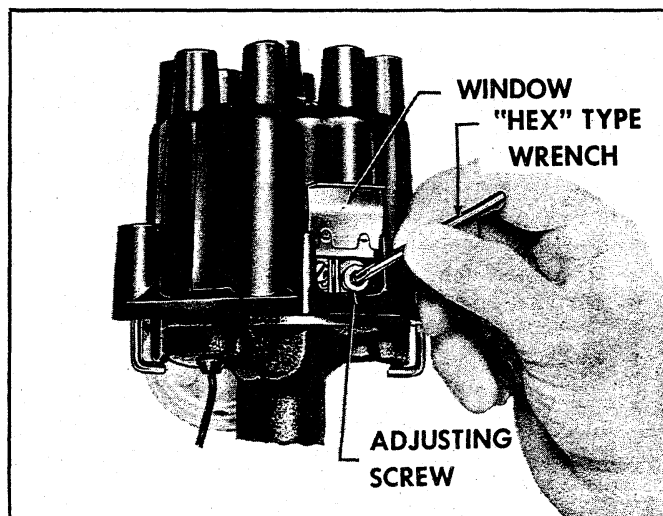

Fig. 12 - Setting Point Dwell (V8)
- With engine running at idle, raise the adjustment screw window and insert an Allen wrench in the socket of the adjusting screw (fig. 12).